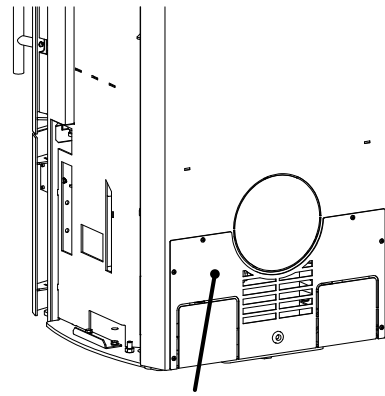

Fig. 1 Paneling for water connections
- Unscrew the paneling for water connections of the back panel (Fig. 1).